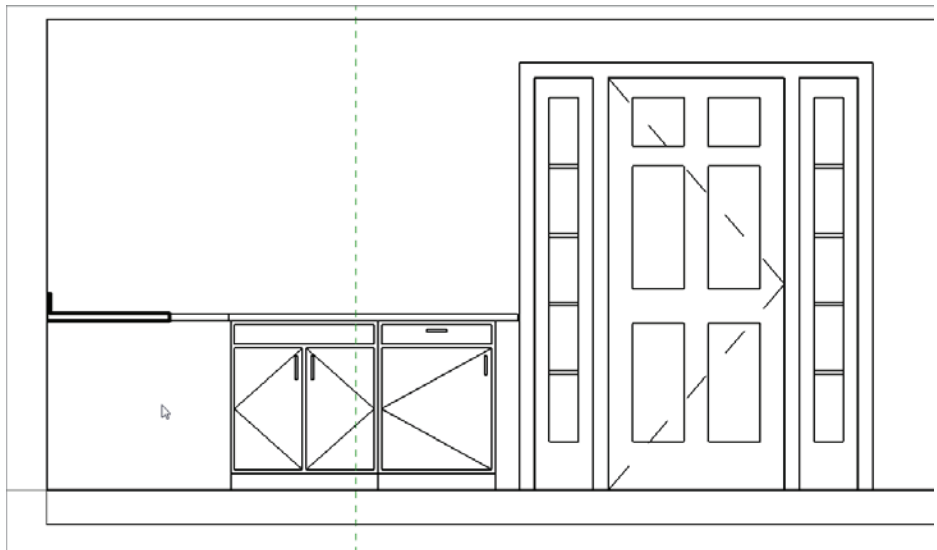

FIGURE 9.59 The elevation of the cabinet run
4. Press Esc twice or click Modify; then open the Kitchen North elevation. Does your elevation look like Figure 9.59?